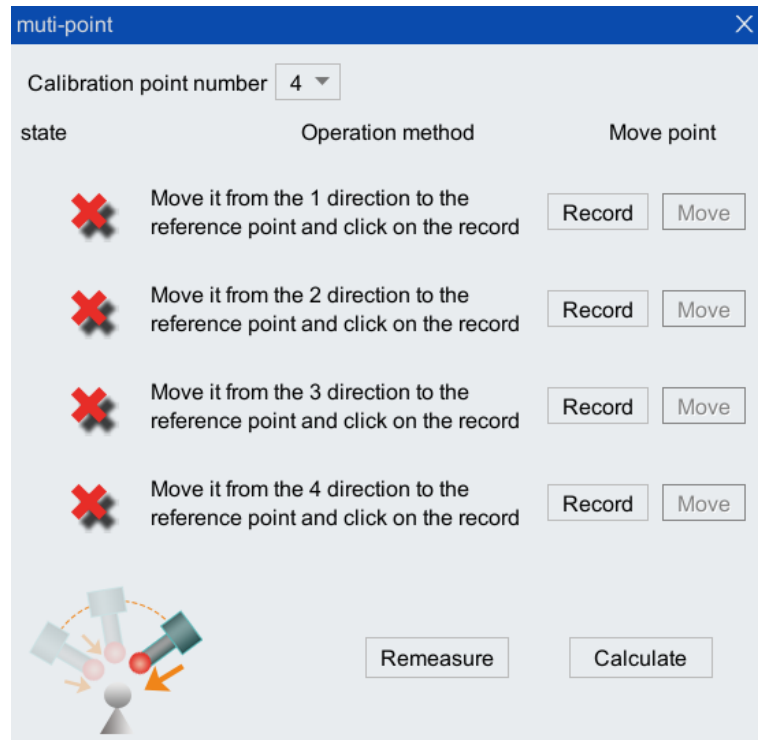

Figure 8-9 Position calibration interface
Step2. Click <multi-point> to pop up the configuration interface, as shown in Figure 8-9 below.